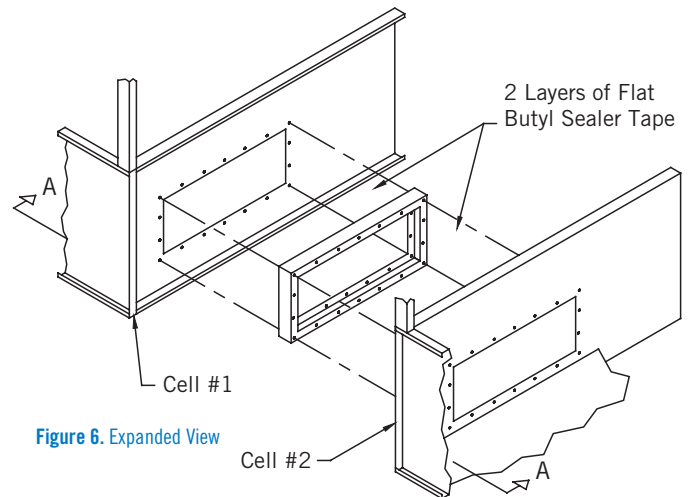

Figure 6. Expanded View
5. Fasten into place as shown in **Figure 6**. For basins with TriArmor® Corrosion Protection System, backing plates are to be installed inside the basin and flume box opening (see **Figure 7, Detail A**). Insert the 3/8” self-tapping screws or bolts in each hole from the flume box into the basin wall and backing strips (if applicable) as illustrated in **Figure 7**.